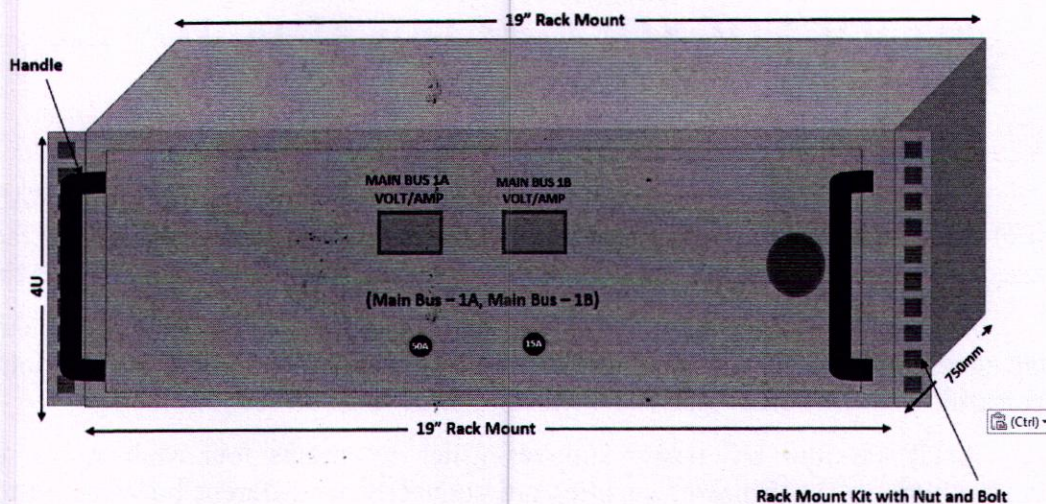

Figure 1: Front panel of PDU1
- Front panel shall be installed with Emergency stop switch, CBs and digital voltmeters with legends to indicate the name of each bus as shown in **Figure 1**.